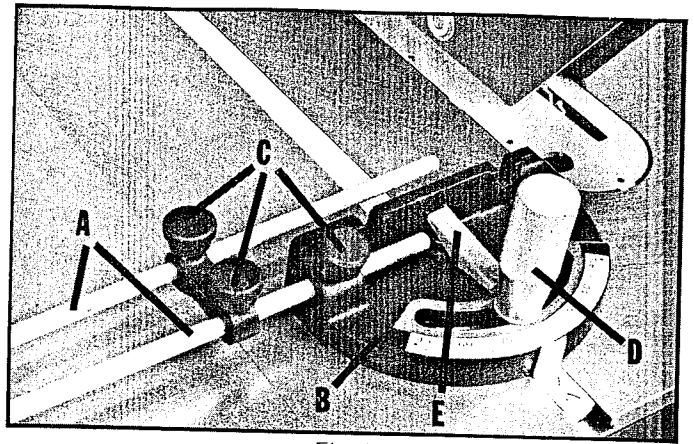
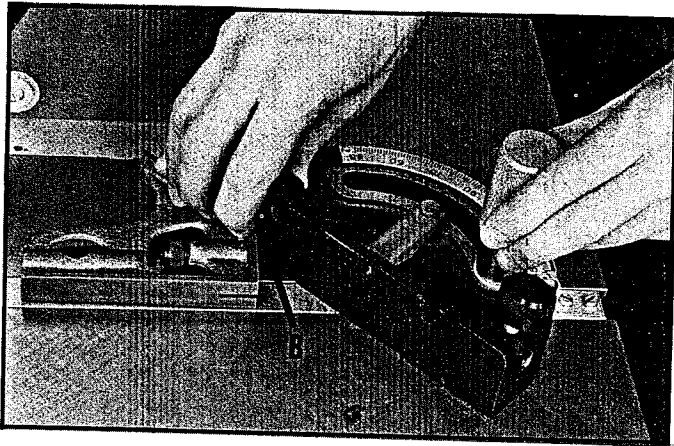
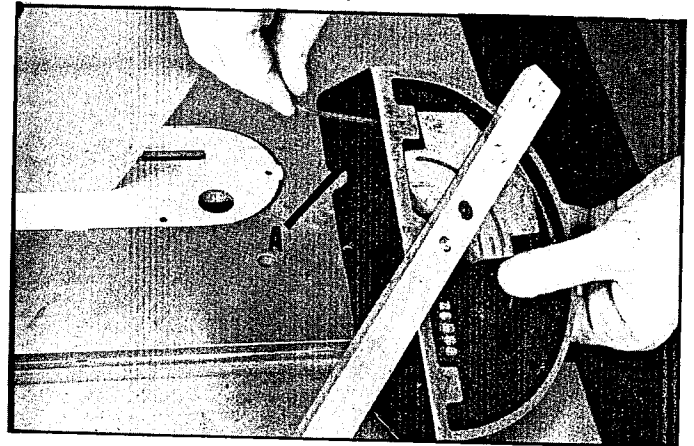

Fig. 52
Fig. 54
Fig. 55
1. The miter gage body (B) Fig. 52 can be adjusted up to 45° right and left by loosening lock knob (D) and depressing lever (E).
2. The stop rods can be adjusted by loosening lock knobs (C).
3. Positive stops are provided on the miter gage at the 90 and 45 degree right and left positions. To adjust the gage to a 45° angle, right or left, hold a square at a 45° angle against the bar and body (B) Fig. 54. After the amount of adjustment has been determined, remove the gage from the table with the base facing up, as shown in Fig. 55. Loosen lock screw (A) with allen wrench and turn adjusting hex head screw, located on the inside of the miter gage body directly in back of set screw (A) Fig. 55. After the hex head stop screw is adjusted correctly, tighten screw (A). The other 45° positive stop can be adjusted in the same manner.